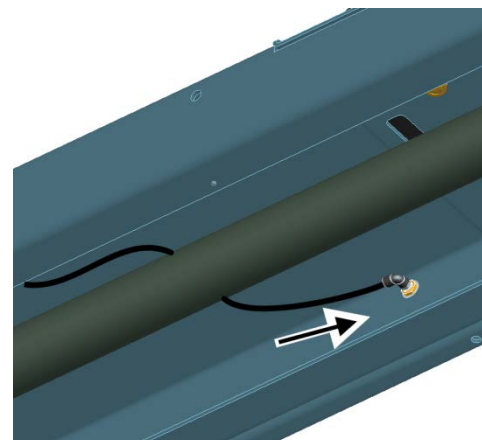

Figure 43
- Route 3/8" tube to the push-in elbow, as shown in **Fig.43**.